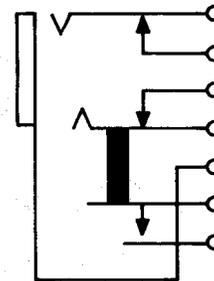

Fig. 3—308 Jack
**2.03 308:** This strip-mounted jack (Fig. 3) is used with the 310 plug. This jack is also used with the 109, 110, 116, 131, 136, 137 or similar-type jack mountings. This jack is furnished only on orders for jack mountings.